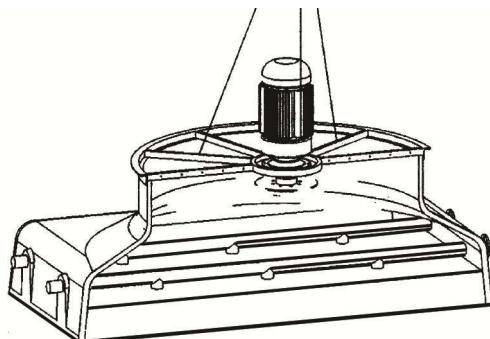

Fig. 6
- In the part including the electric motor, hook a sling to two of the spokes (or to the eye bolts) of the fan supporting ring, fastening the motor to balance the assembly in the way shown on Figure 6.